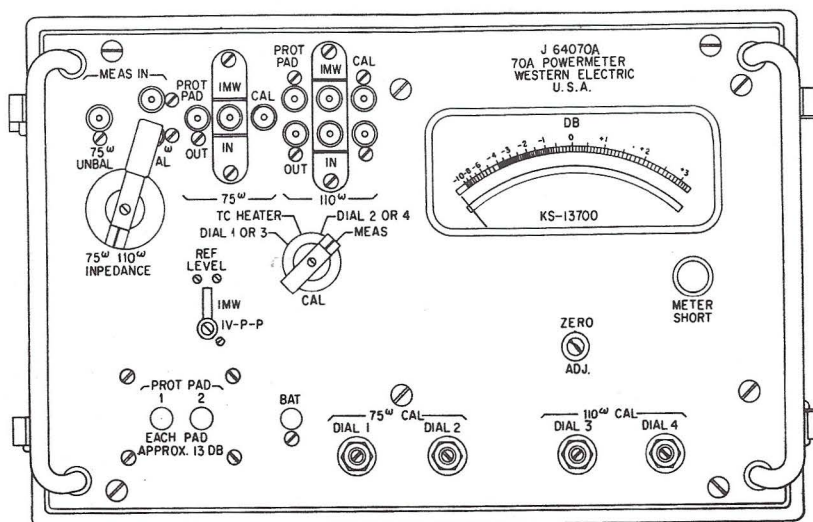

Fig. 1 — Panel of 70A Power Meter
**1.08** The 70A and 70B power meters are identical as to size and weight and are portable sets contained in a metal case which is approximately 15 inches long by 10 inches wide and 8 inches in height. Each set weighs approximately 20 pounds. A KS-14711 or KS-6522, 1.5-volt dry cell supplies the power necessary for calibrating. The top views of the 70A and 70B power meters are shown in Figs. 1 and 6.